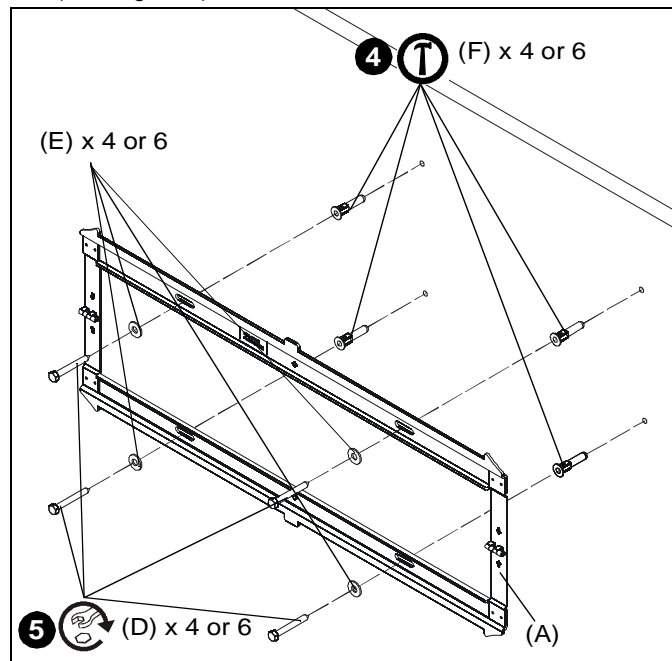

Figure 7
5. Using 1/2" (12.7mm) wrench, install screws (D) through flat washers (E), wall plate (A) and into concrete anchors (F). (See Figure 7)